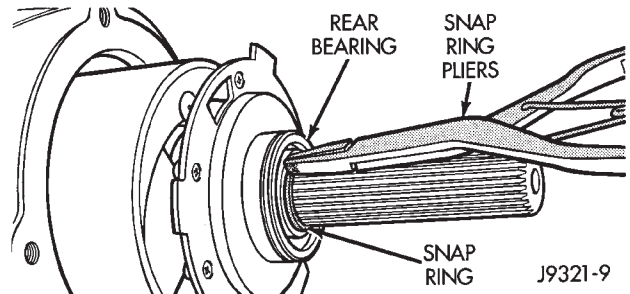

Fig. 74 Rear Bearing Snap-Ring Installation
- (5) Install rear bearing retaining snap-ring (Fig. 74).